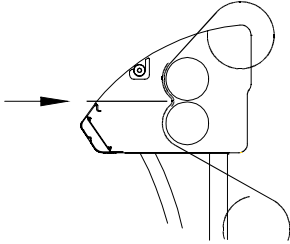

Figure 16
- Use the provided leaderboard to push the film(s) through the nip (figure 16).
- Push the film(s) just into the nip using the provided leader board, (see figure 16)